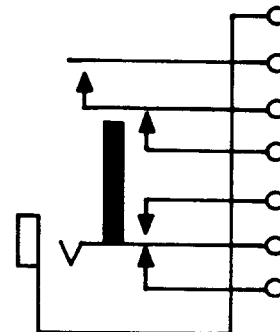

Fig. 12—327C Jack
2.12 **327C:** This single-mounted jack (Fig. 12) is used with the 347 plug. The 327C jack is heavily insulated.